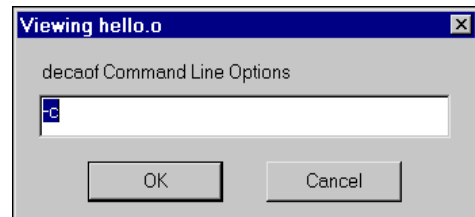

Figure 2-18 Viewing dialog
2. Select **Contents** *hello.o* from the **View** menu. The appropriate Viewing dialog for the translator is displayed (Figure 2-18).